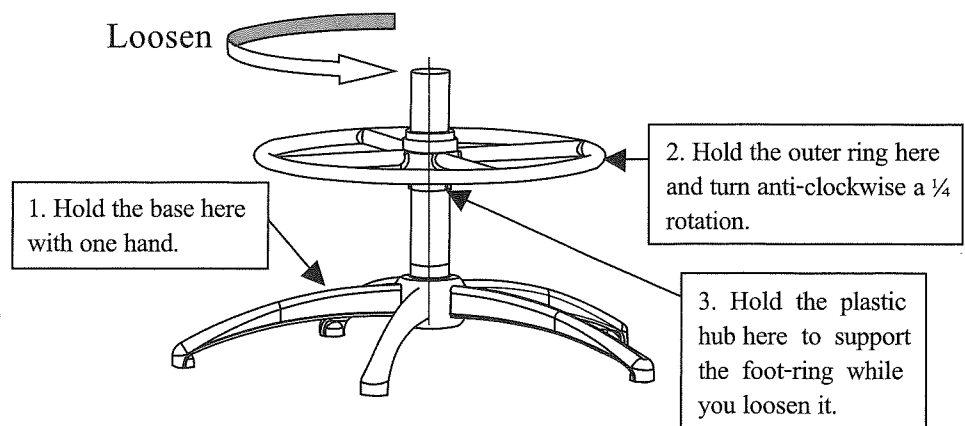

Fig .5
3. Height Adjustment - Hold the base with one hand and turn the foot-ring anti-clockwise approx. a 1/4 rotation just to loosen. Hold the bottom of the plastic hub with one hand and the outer ring with the other and continue to turn anti-clockwise until the foot-ring is released and can move freely up and down the gas cylinder. (Refer to Fig.5)